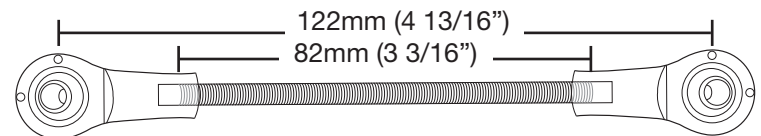

fig. 4
- Trim the threaded rod that comes with the 3H linkage height sensor pack to 82mm (3 3/16") (Fig. 4). The linkage assembly will be 122mm (4 13/16") from eye to eye. The linkage must have a minimum of five threads of engagement on both ends.